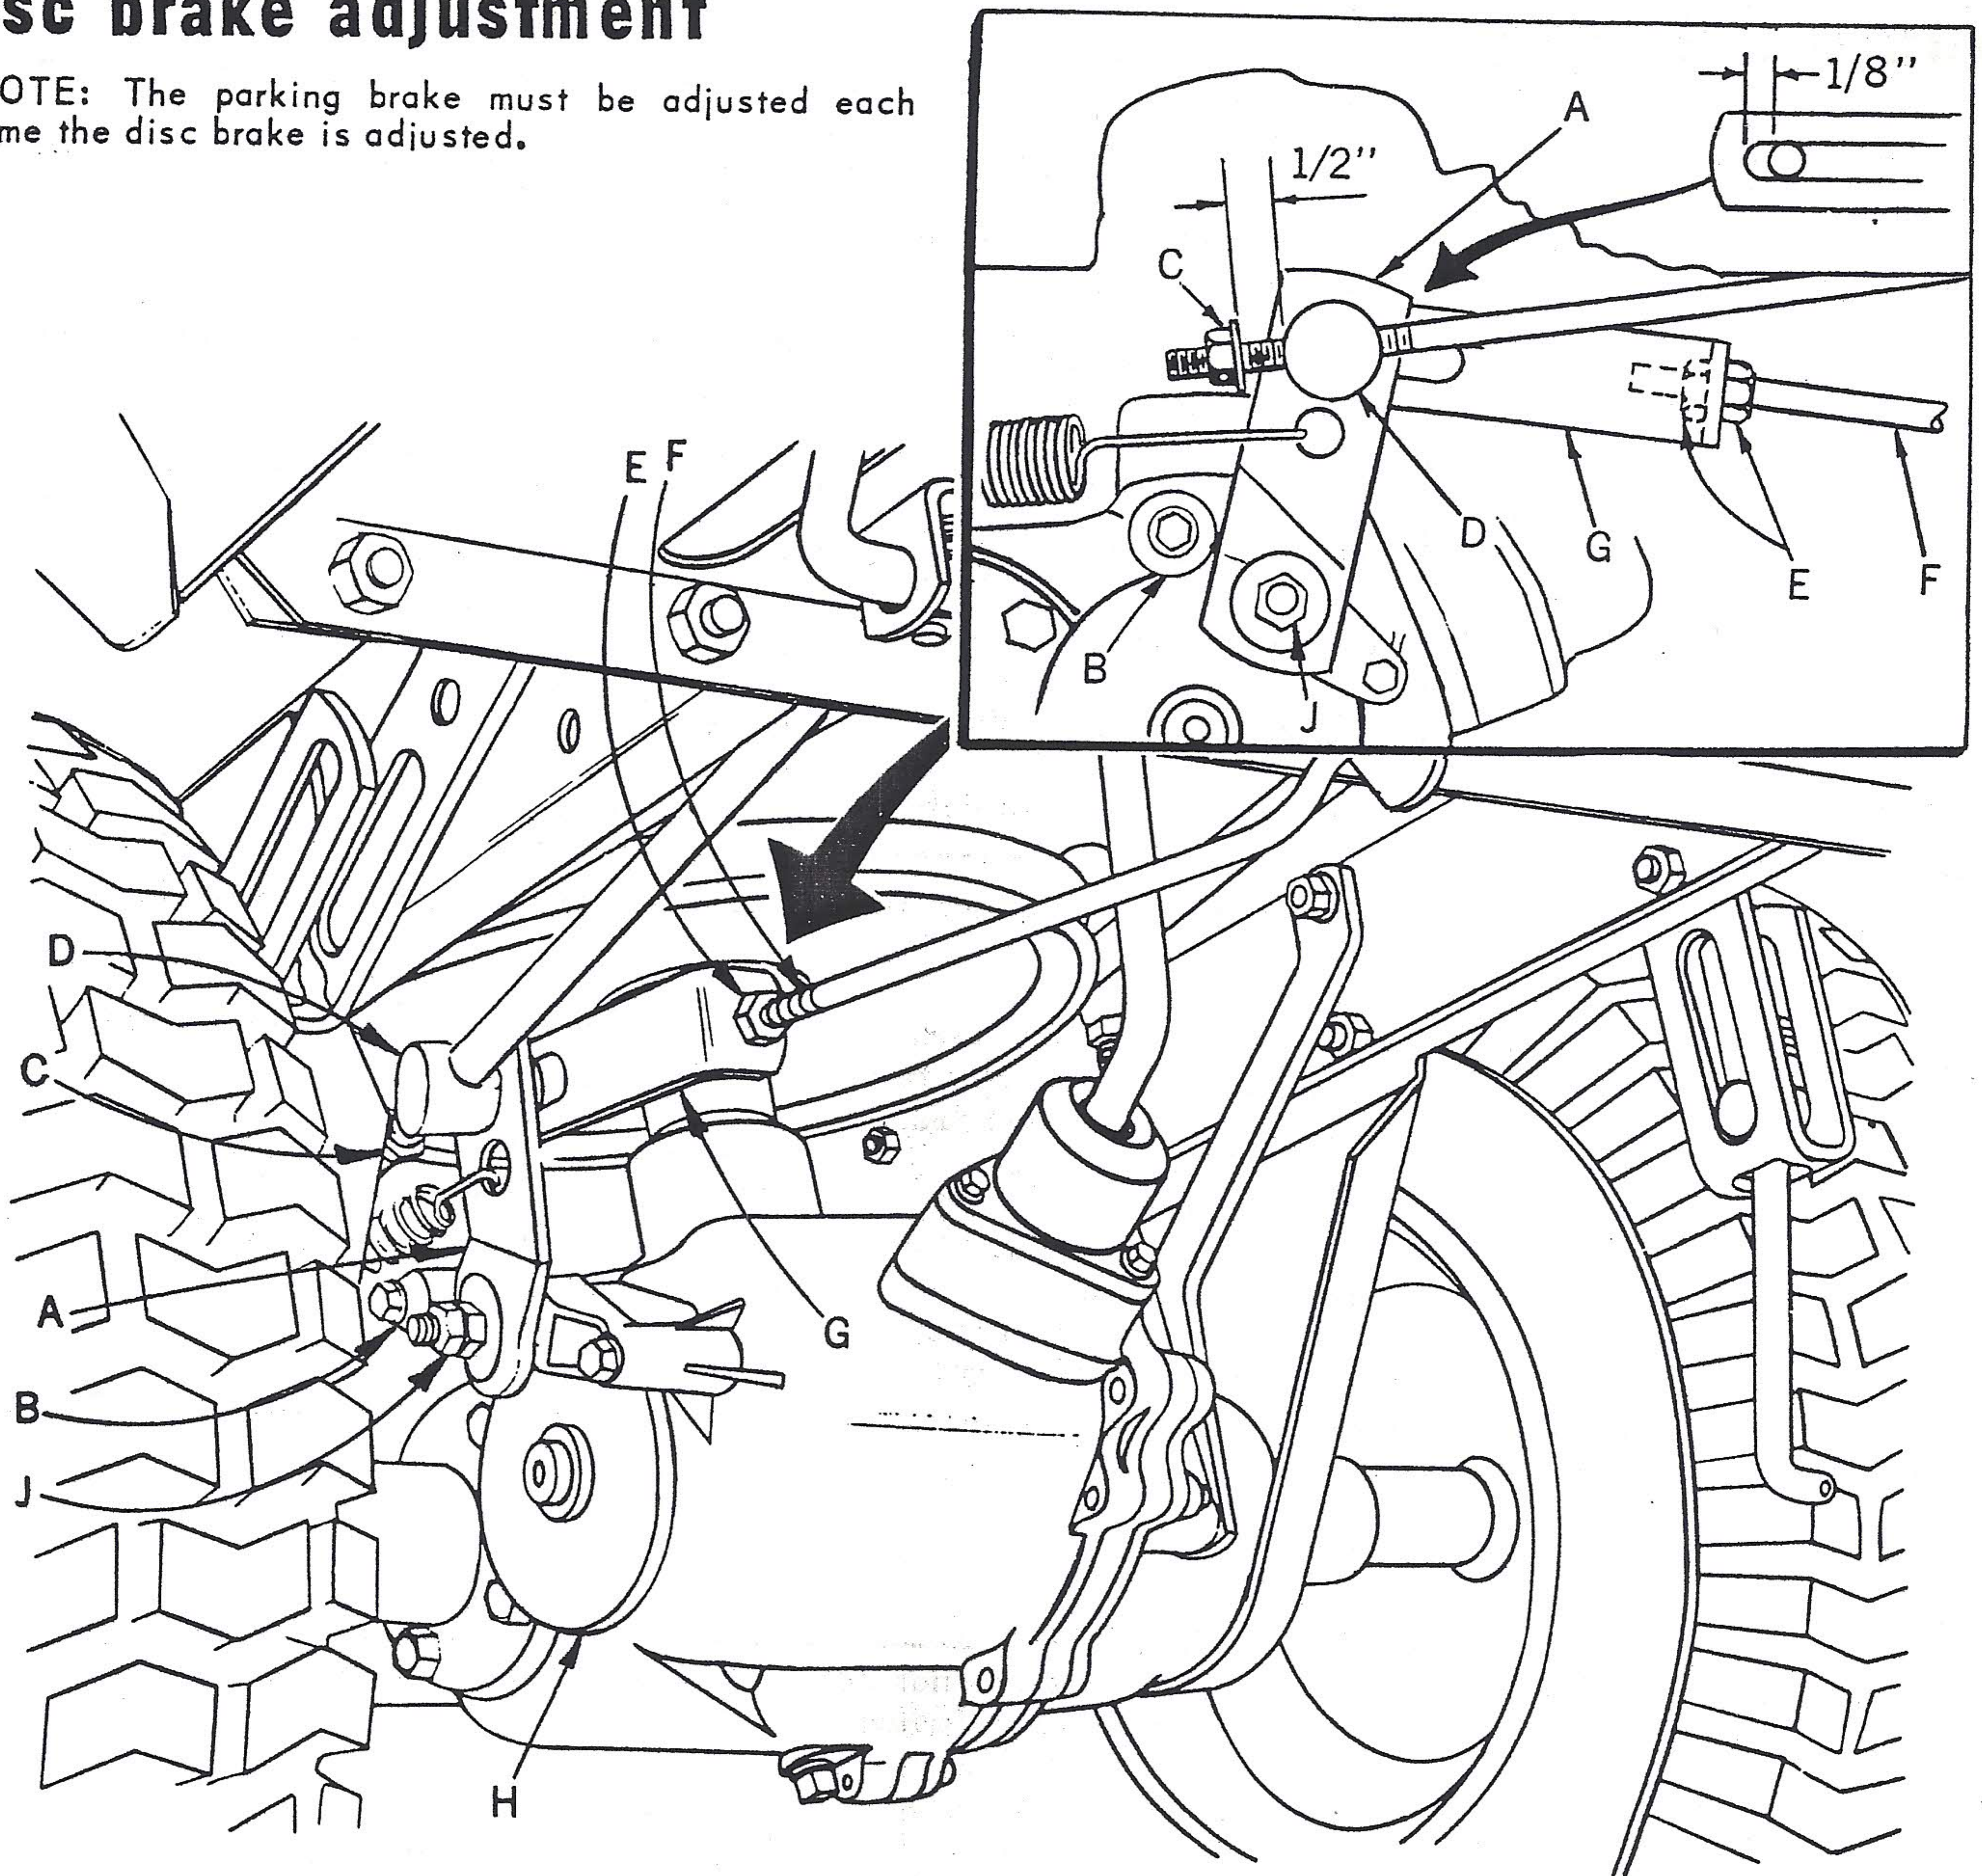

FIG. 30
2. Adjust hex nut (C), until there is approximately 1/2" distance from the rear of the brake pin (D), to nut (C). Refer to inset.
3. With the clutch-brake pedal engaged ("drive") position, refer to page 9, the brake arm (A, Fig. 30), should be against stop (B). There should be approximately 1/8" side movement in brake arm (A). Check the disc brake (H), for dragging against the brake shoes (pads) by raising the rear of the tractor off the ground and rotating the tire by hand. If there is apparent dragging, back-off the rear nut (J), until dragging is eliminated. Now secure the top hex nut against the bottom nut.
4. With parking brake in the "unlock" position, loosen the two nuts (E), on the parking brake rod (F). Adjust locking nuts (E), until the back of the slot in bracket (G), is 1/8" from brake pin (D). Refer to inset.